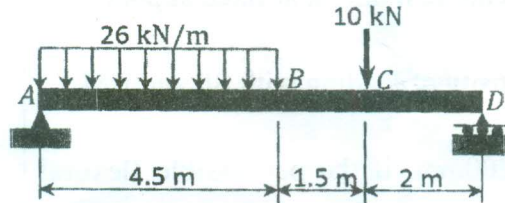

Fig 2
b) Draw the SFD and BEM for the beam shown in fig 2.